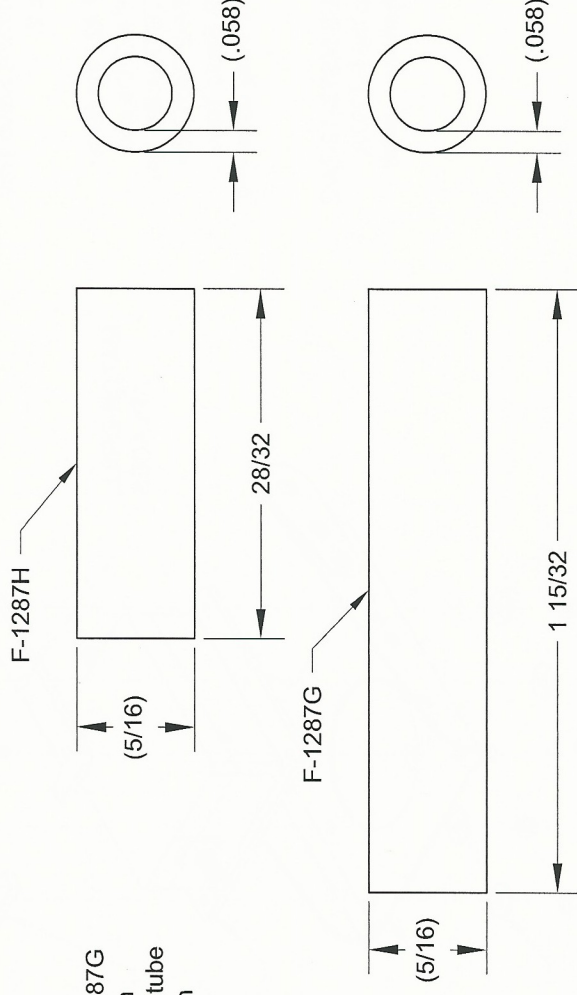

FIGURE 4:
Step 4: Fabricate the F-1287G and F-1287H Spacers from AT6-058 X 5/16 aluminum tube per the dimensions given in Figure 4.